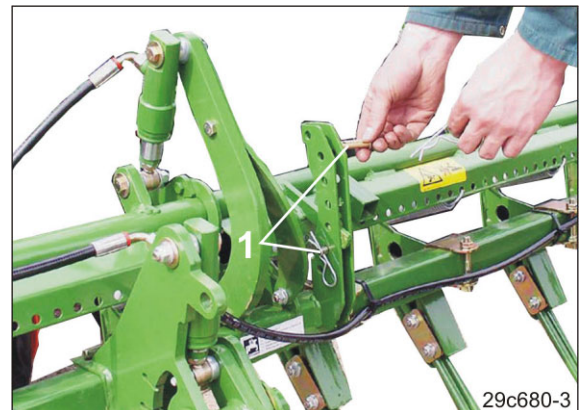

Fig. 144
3. Insert one pin each (Fig. 144/1) under and over the lever into the adjusting segment and secure it with safety splints.